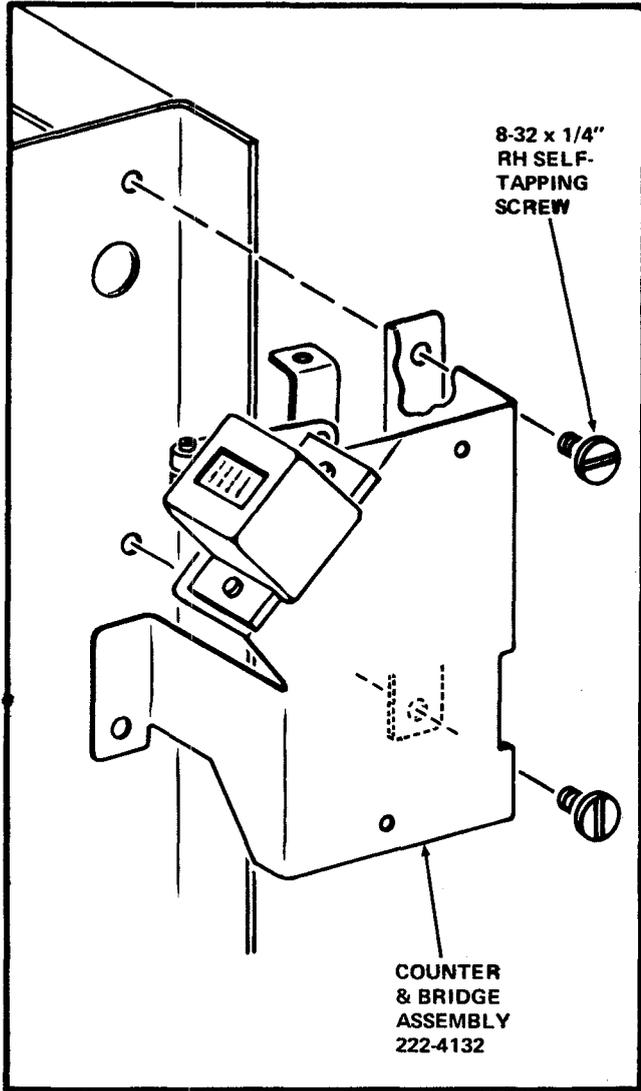

FIGURE 5
12. Install the Counter and Bridge Assembly, part number 222-4132, on the Right Sidewall. The two holes in the long Flange on the Bridge are to be in line with the 2 holes from which the Screws were removed in step 11. See Figure 5.